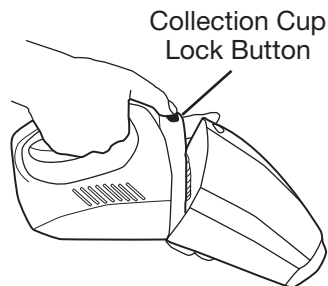

Figure 3
2. Press the collection cup lock button to release the collection cup from the vacuum (see Figure 3).